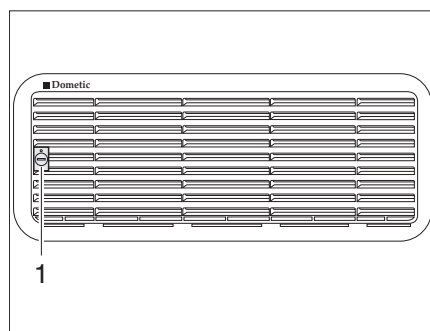
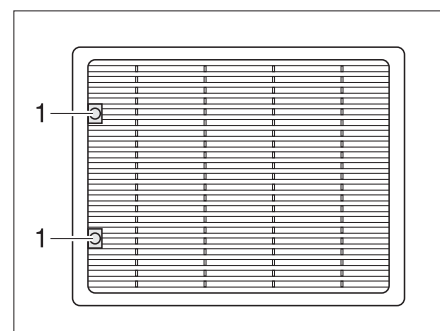

Fig. 264 Refrigerator ventilation grill (Dometic small)
Fig. 265 Refrigerator ventilation grill (Dometic large)
- Turn screw (Fig. 264,1 or Fig. 265,1) one quarter turn using a coin.